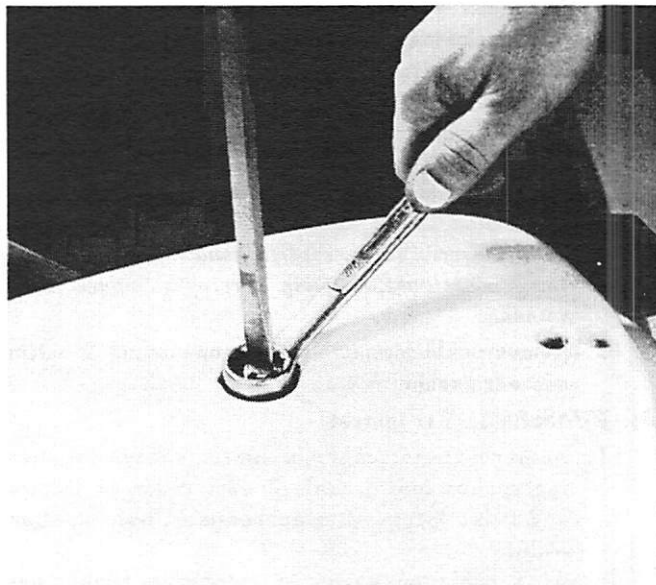

Figure 7. Preloading Starter Spring
18. Turn sheave shaft counterclockwise with screwdriver until handle is against guide bushing, then turn in additional $1\frac{1}{4}$ turns counterclockwise to wind spring to correct returning tension. (Figure 7)